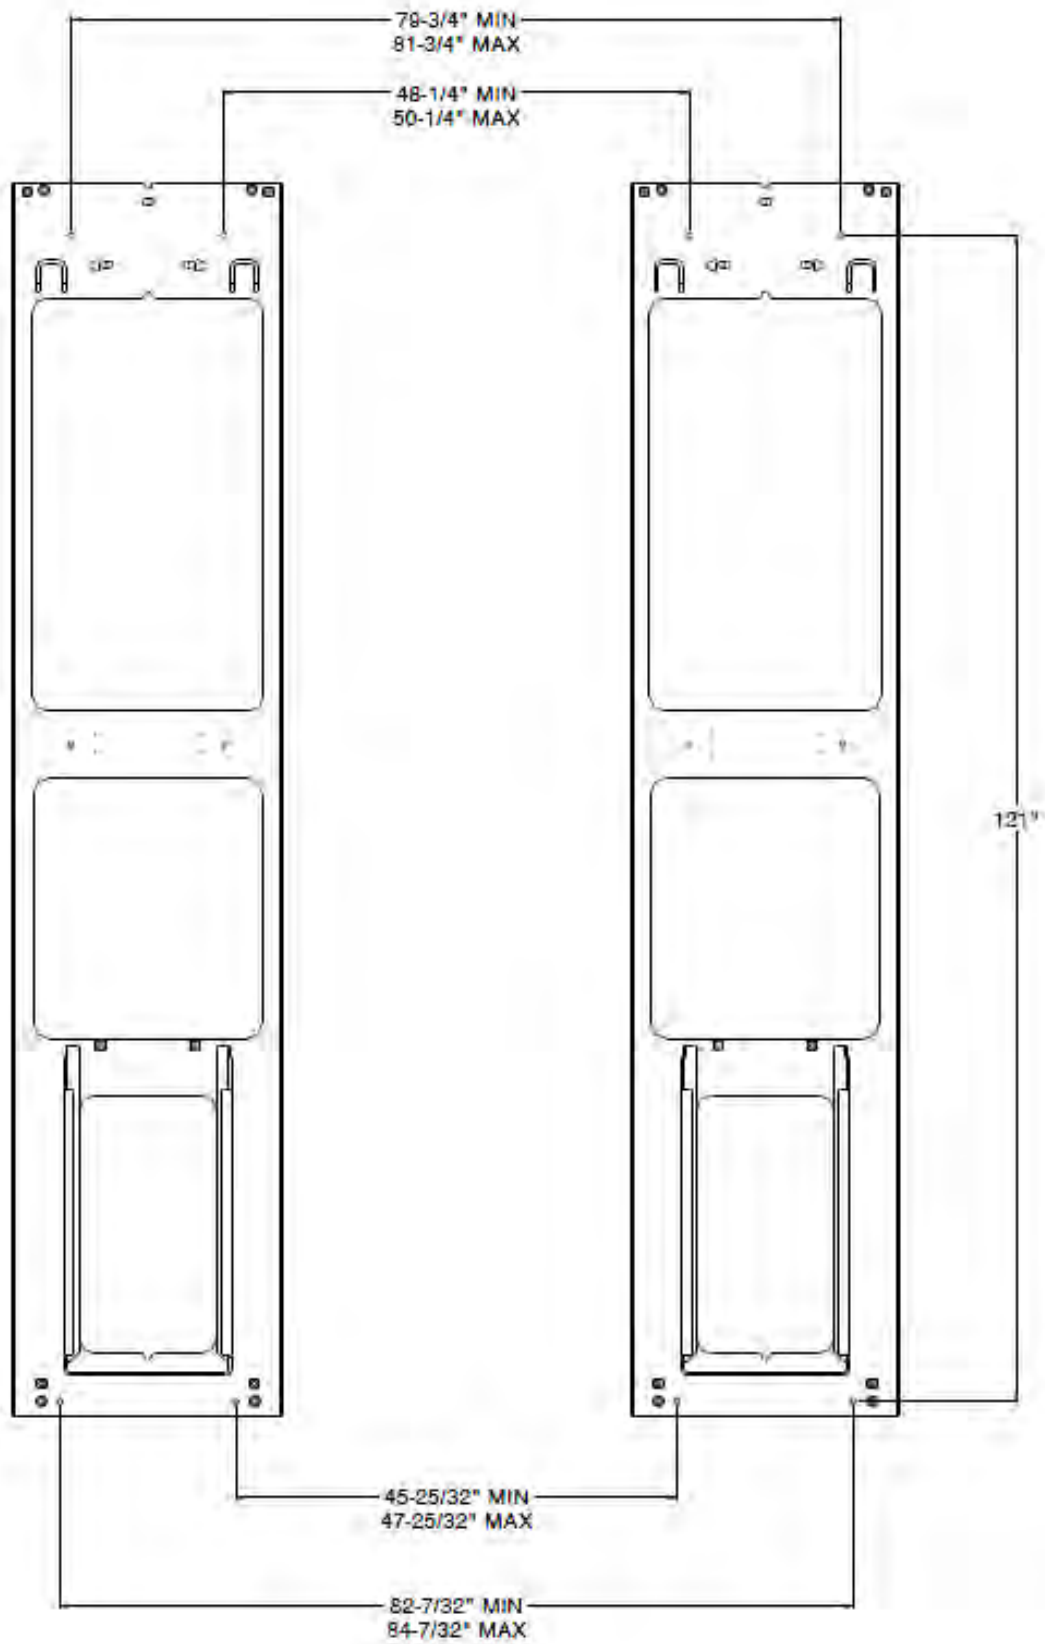

Figure 5 – Baseframe Locations
2. Unravel all hoses, air lines, and sensor cables from each runway and connect the hydraulic lines as shown in Figure 5. Save the caps from the hydraulic lines for capping other fittings mentioned in the next step.